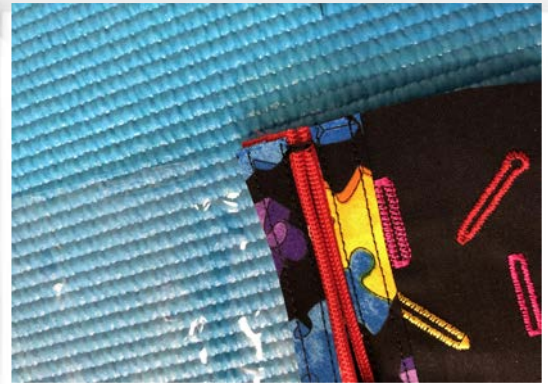

Fig 9
- Oversew both ends of the zipper, with a bartack type of stitch, close to the edge to secure. Trim off excess zipper. See Fig 9.